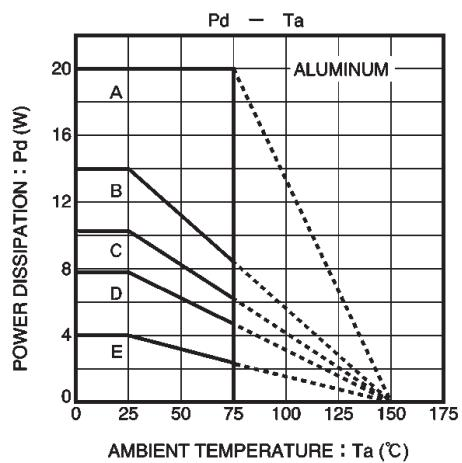

Fig. 10 Power dissipation curves
*2 $T_a = 75^\circ C$ (see Fig. 10).